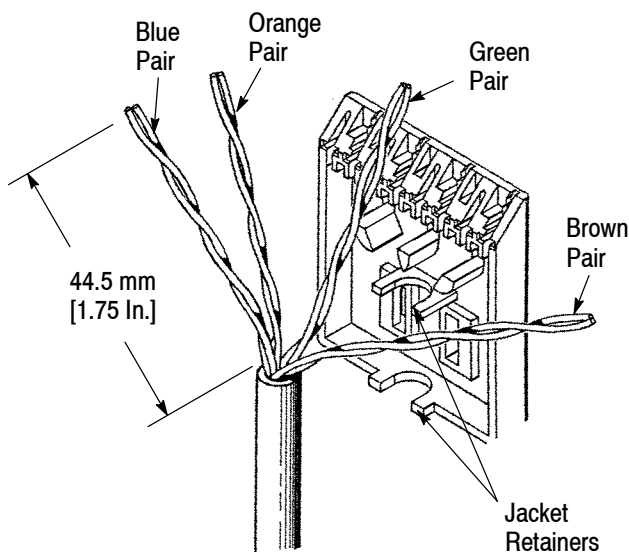

Figure 2
2. Fan and position conductor pairs in blue, orange, green, and brown order (left to right). See Figure 2.